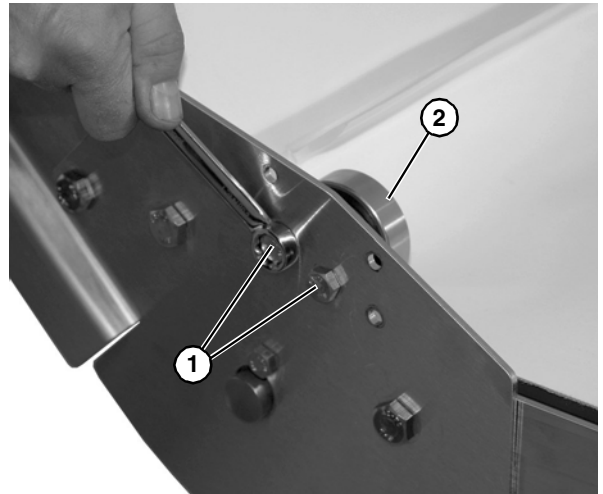

Figure 55
2. Remove two cap screws (Figure 55, item 1) for bearing assembly (Figure 55, item 2) on side of lower knuckle assembly.